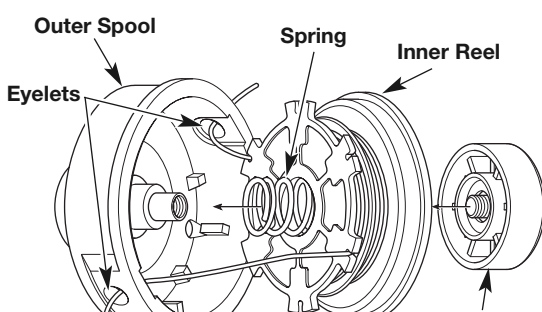

Fig. 19
1. Pass the two line ends through the eyelets in the outer spool. Place the spring inside the inner reel. Insert the inner reel into the outer spool. Push the inner reel and outer spool together (Fig. 19).